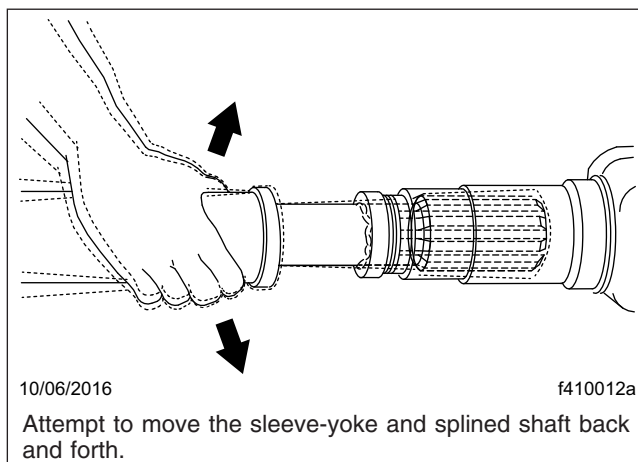

Fig. 5, Slip Joint Spline Wear Checking
- Check slip joints for spline wear by moving the sleeve-yoke and splined shaft back and forth. See Fig. 5. If the slip joint can be twisted in a clockwise, or counterclockwise movement greater than 0.007 inch (0.18 mm), replace both the sleeve-yoke and the splined shaft.